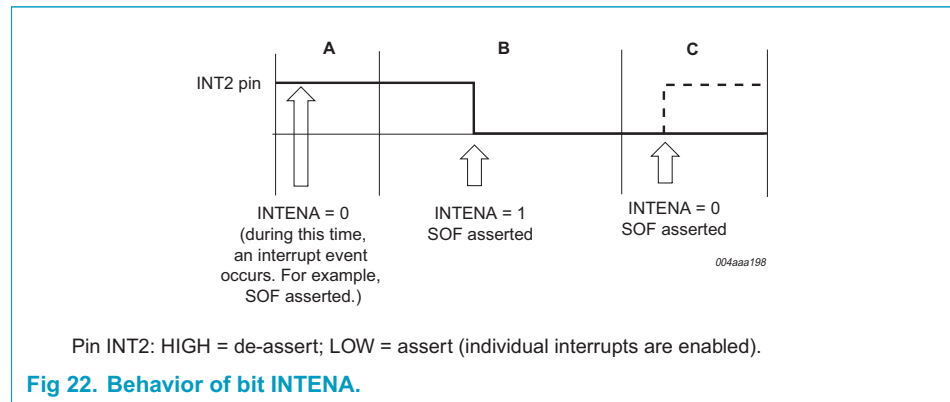

Fig 22. Behavior of bit INTENA.
**Interrupt control:** Bit INTENA in the DcMode register is a global enable/disable bit. The behavior of this bit is given in Figure 22.
Event A (see Figure 22): When an interrupt event occurs (for example, SOF interrupt) with bit INTENA set to logic 0, an interrupt will not be generated at pin INT2. However, it will be registered in the corresponding DcInterrupt register bit.
Event B (see Figure 22): When bit INTENA is set to logic 1, pin INT2 is asserted because bit SOF in the DcInterrupt register is already asserted.
Event C (see Figure 22): If the firmware sets bit INTENA to logic 0, pin INT2 will still be asserted. The bold dashed line shows the desired behavior of pin INT2.